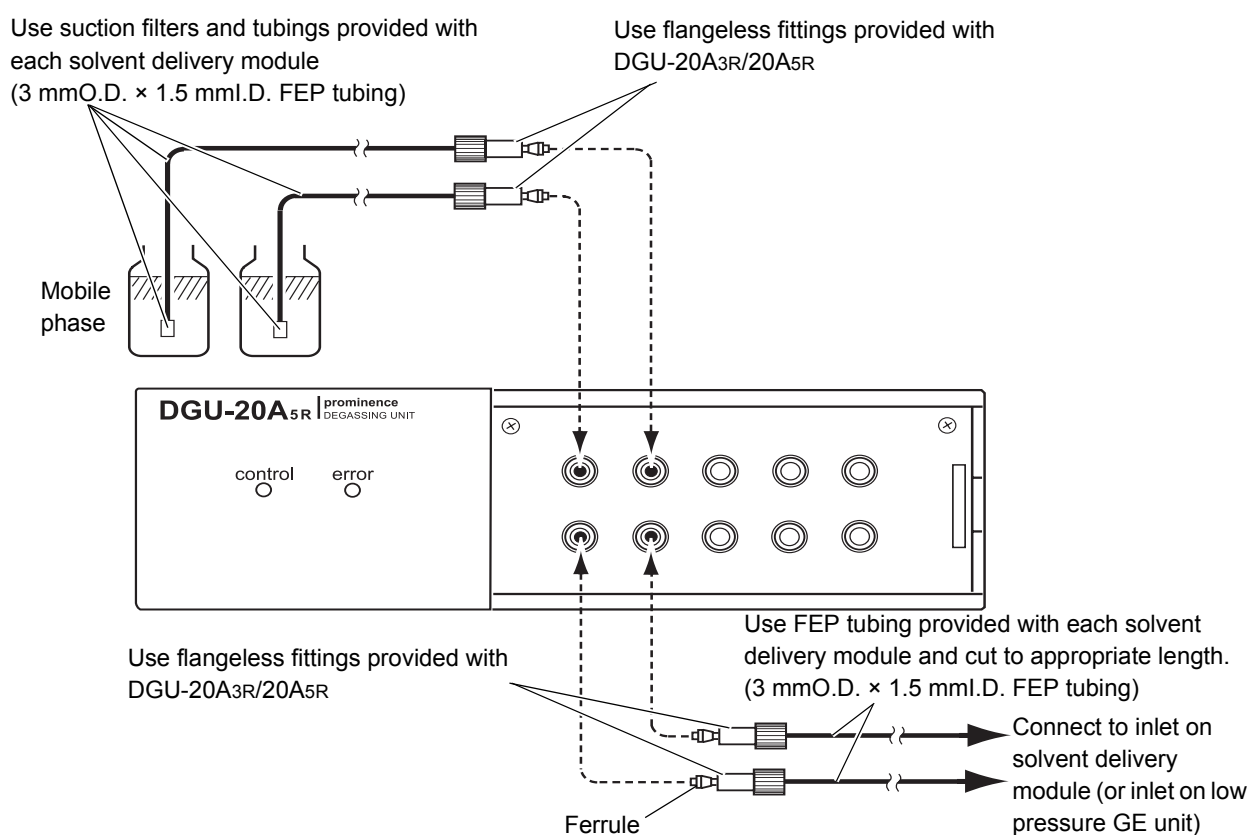

Fig. 3.8
Please configure the tubing between the reservoirs and degassing unit and between the degassing unit and solvent delivery module (or low pressure GE unit). (☞ Fig. 3.8)
- Cut the FEP tubing so the cut face is a right angle. When connecting lines to the degassing unit's solvent IN/OUT ports, be careful of direction of ferrule. (☞ Fig. 3.8) Please make sure the FEP tubing end is pushed in until it contacts the far side of the joint and firmly tighten the flangeless fitting so the ferrule securely grips the tubing. It is secured when the flangeless fitting no longer turns. Do not force the nut beyond that point, as the flangeless fitting could break.